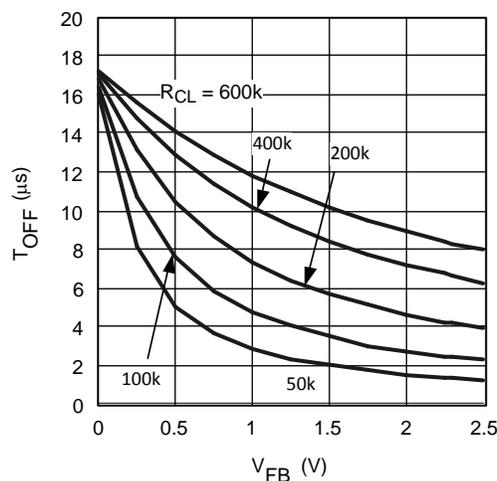
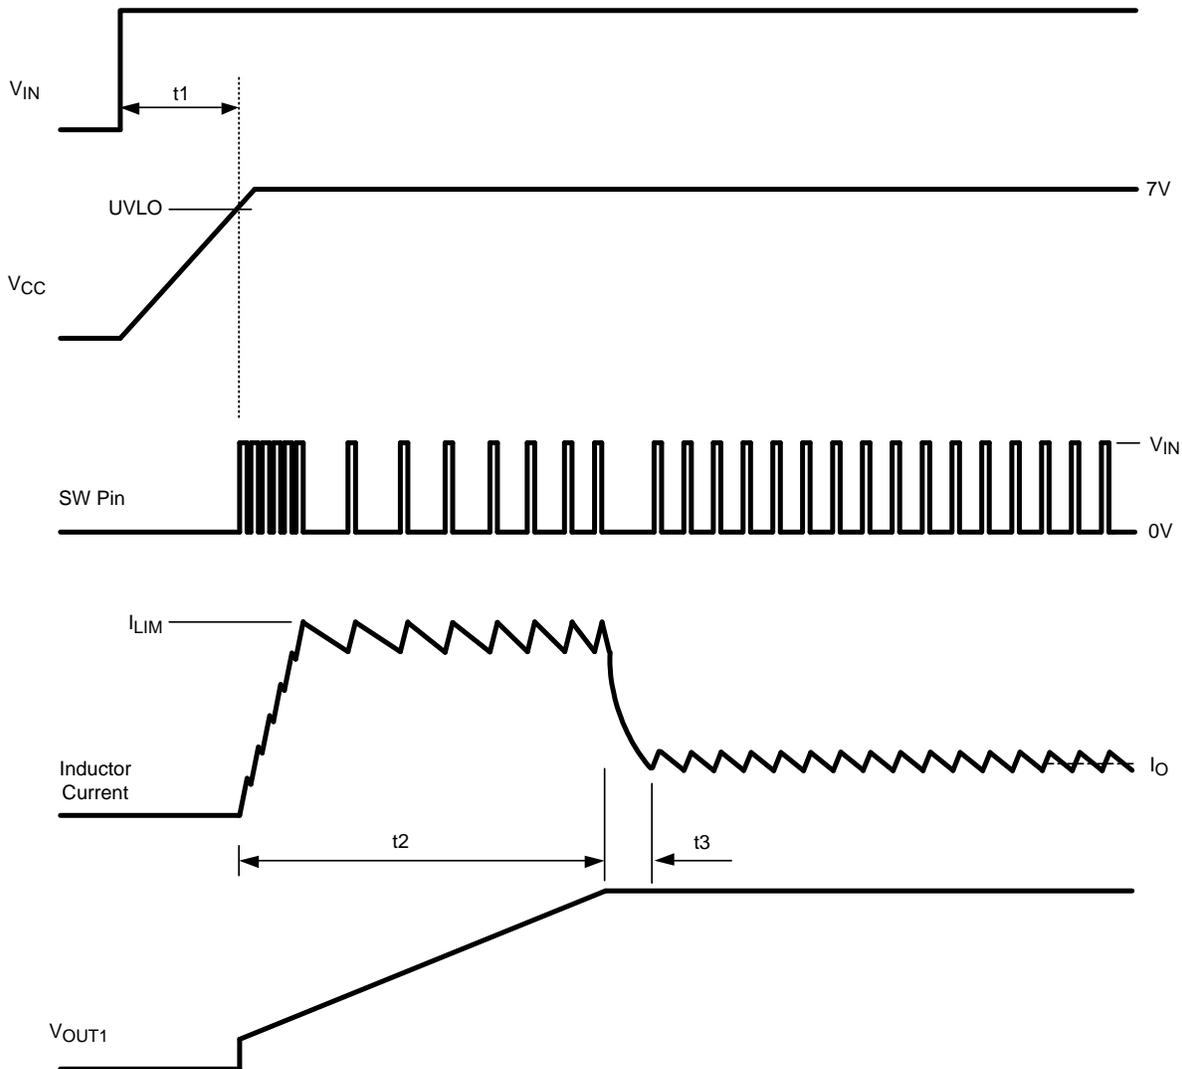
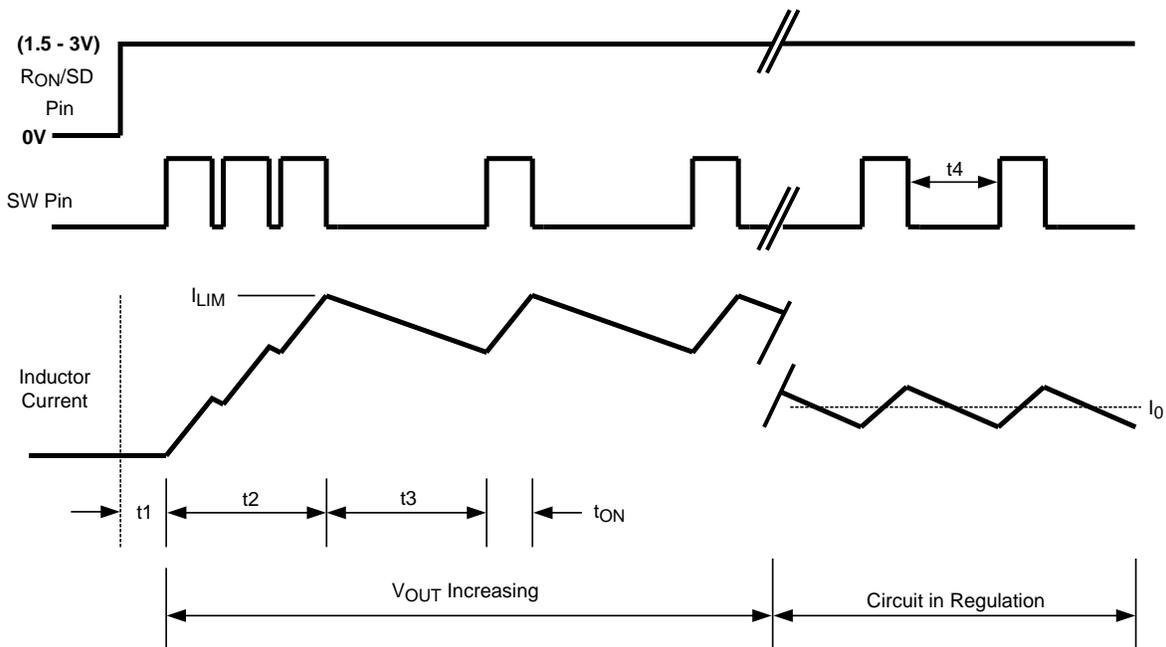
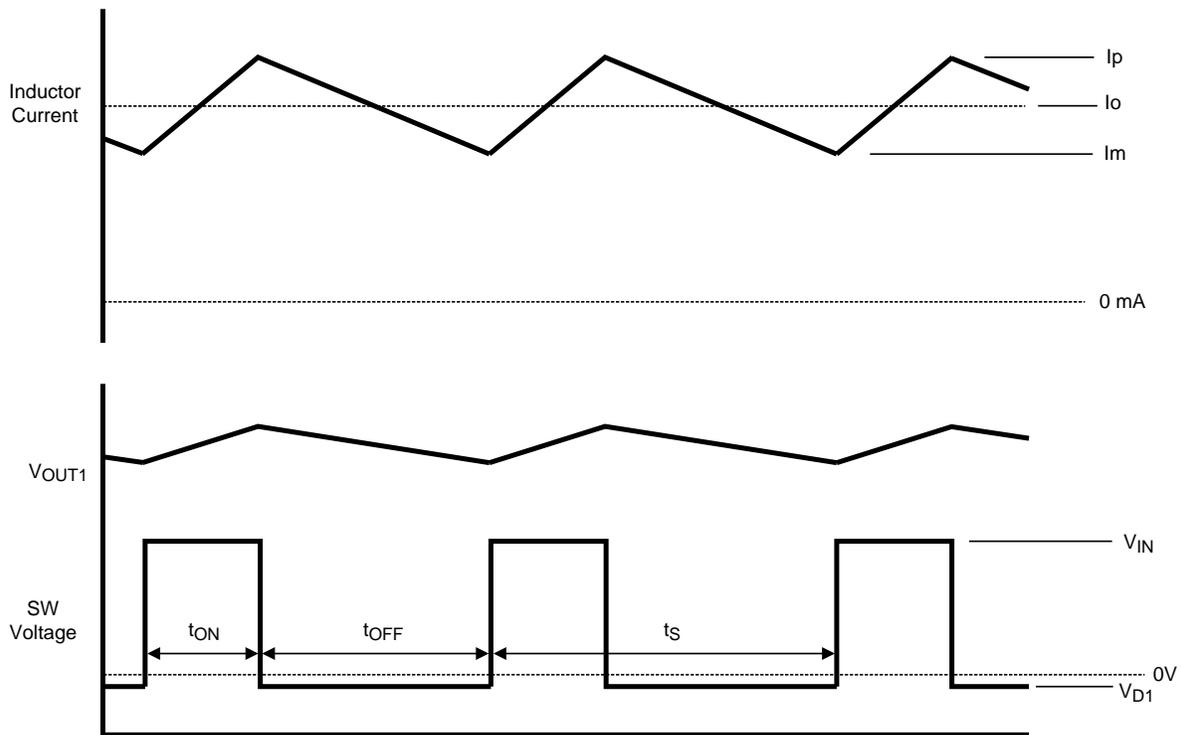

Figure 3. Current Limit Off-Time vs V_{FB} and R_{CL}
Figure 6. Start-Up Sequence
Figure 8. Start-Up Timing Using the R_{ON}/SD Pin
Figure 9. Continuous Conduction Mode
where I_o is the nominal load current, t_{on} is the on-time, and $L1$ is the inductor value (see Figure 9). At the end of the on-time, the buck switch is turned off, and the voltage at the SW pin goes to a voltage below ground determined by the forward voltage drop of the external diode D1.
See Figure 3. If the current overload condition is such that $V_{FB} = 0V$ (which occurs at start-up, or with a shorted output) the off-time is 17 μ s. In a less severe overload condition, where V_{FB} is between ground and 2.5V, the off-time is shorter, resulting in a faster recovery and reduced current foldback. If the current overload persists, the LM5007 provides cycle-by-cycle current limiting, and the output characteristic of the converter is that of a current source.
When power is applied at V_{IN} , the start-up sequence is shown in Figure 6. During the initial delay (t_1), V_{CC} ramps up at a rate determined by its current limit and C_3 , while internal circuitry stabilizes. For example, if $C_3 = 0.1\mu\text{F}$, t_1 is nominally $57\mu\text{s}$. When V_{CC} reaches the upper threshold of the under-voltage sensor (UVLO, typically 6.3V), the buck switch is enabled. The inductor current then ratchets up to the current limit threshold (I_{LIM}), with each on-time determined by V_{IN} and R_{ON} , and off-times of 300ns. Once the current limit is reached, the off-time is $17\mu\text{s}$ since V_{FB} is near zero (see Equation 4 and Figure 3). As V_{OUT1} ramps up during t_2 , the inductor current will continue to reach I_{LIM} , but the off-times will decrease as V_{FB} increases with V_{OUT1} . The time t_2 can be as much as $500\mu\text{s}$. Once V_{OUT1} reaches its intended value (and $V_{FB} = 2.5\text{V}$), the average inductor current will decrease (t_3) to the nominal load current (I_o), and the ripple amplitude is determined by the on-time, inductor value, V_{IN} and V_{OUT1} , discussed in a later section. The off-time is determined by the on-time, V_{IN} and V_{OUT1} according to Equation 2. The time t_3 is generally 30 to $100\mu\text{s}$.
Start-up using the R_{ON}/SD pin is shown in Figure 8. After releasing the R_{ON}/SD pin, there is an initial delay of approximately $3.5\mu s$ (t_1) while internal circuitry powers up to enable the buck switch. During t_2 several on/off cycles occur during which the inductor current ramps up to the current limit threshold (I_{LIM} , nominally 725mA). Each cycle's on-time is determined by V_{IN} and R_{ON} , and the off-time is the minimum 300ns. The time t_2 , and consequently the number of SW cycles, depends on the inductor value and V_{IN} , with t_2 ranging from 2 - $20\mu s$. After t_2 , the longer off-time (t_3) is determined by R_{CL} and V_{FB} which is near zero volts at this time. As V_{OUT1} increases, and V_{FB} with it, t_3 decreases according to Equation 4. The inductor current will continue to reach I_{LIM} each cycle until regulation is achieved ($V_{FB} = 2.5V$). The time for V_{OUT1} to reach its final value can be as much as $500\mu s$.
When the circuit is in regulation (right side of Figure 8), the inductor current's waveform will have an average value (I_0) which is the load current, and the ripple amplitude is determined by the on-time, inductor value, V_{IN} and V_{OUT1} , discussed in a later section. The off-time (t_4) is determined by the on-time, V_{IN} and V_{OUT1} according to Equation 2.
In this mode, the load current is high enough, relative to the ripple current, so that current in L1 is always greater than zero, as shown in Figure 9.
a) Minimum load current: To maintain continuous conduction at minimum I_o (100mA), the ripple amplitude must be less than 200mA p-p so the lower peak of the waveform (I_m in Figure 9) does not reach zero. Using Equation 5, and solving for L1 yields:
b) Maximum load current: At a load current of 400mA the peak of the waveform (I_p in Figure 9) must not reach the LM5007's current limit threshold. The minimum guaranteed value for this threshold is 535mA, requiring the ripple amplitude be less than 270mA p-p. Since the inductor value calculated above already satisfies this requirement, a new calculation for L1 is not required. At maximum V_{IN} and I_o , I_p in Figure 9 is 473mA. While L1 must carry this peak current without saturating or exceeding its temperature rating, it also must be capable of carrying the maximum guaranteed value of the current limit threshold (900mA) without saturating since the current limit is reached during startup (Figure 6 and Figure 8). The DC resistance of the inductor should be as low as possible. For example, if the inductor's DCR is one ohm, the power dissipated at maximum load current (400mA) is 0.16W. While small, it is not insignificant compared to the load power of 4W. Generally it is not difficult to find an inductor for this design example with a DCR of less than 0.5Ω.
C1 and C5: C1's purpose is to supply most of the switch current during the on-time, and limit the voltage ripple at V_{IN} , on the assumption that the voltage source feeding V_{IN} has an output impedance greater than zero. If the source's dynamic impedance is high (effectively a current source), it will supply the average input current, but not the ripple current. At maximum load current, when the buck switch turns on, the current into pin 8 will suddenly increase to the value I_m (Figure 9), ramp up to I_p , then decrease to zero at turn-off. The average current during the on-time is I_o , the load current. For a worst case calculation, C1 must supply this average load current during the maximum on-time. To keep the input voltage ripple to less than 2V (for this exercise), C1 calculates to:
The operating frequency of a Buck regulator operating in Continuous Conduction Mode (Figure 9) is determined as follows: